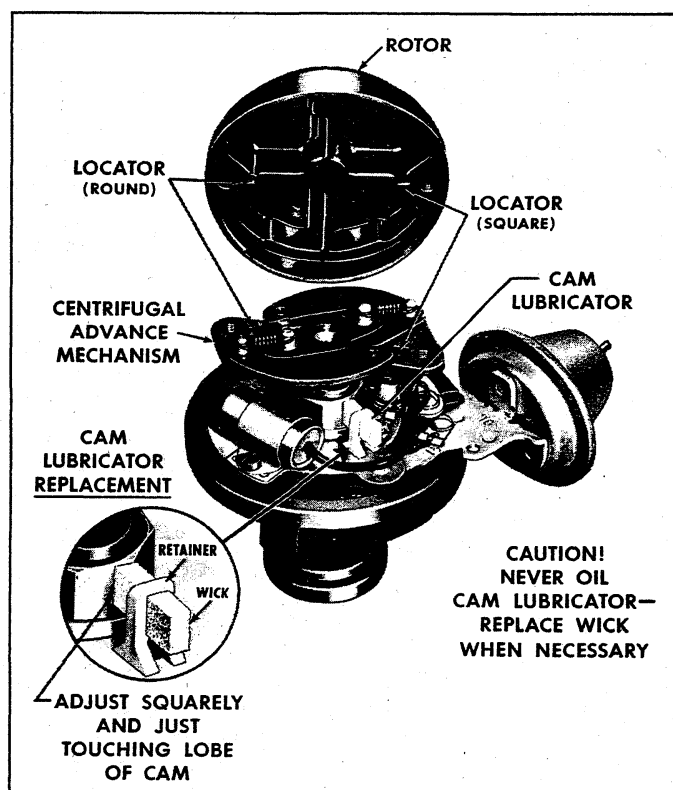

Fig. 7i—Top View of Distributor
6. If car has 20,000 to 25,000 miles (or sooner if desired) the cam lubricator wick (fig. 7i) should be changed. Using long nosed pliers squeeze assembly together at base and lift out. Remove all old lubricant from cam surface. Replace in same manner.